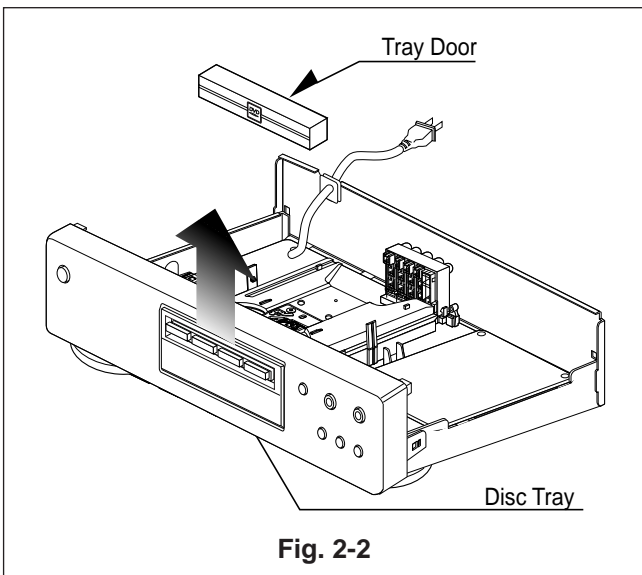

Fig. 2-2
1. Eject the disc tray. (See Fig. 2-2)
2. Remove the tray door. (See Fig. 2-2)
3. Release 2 screws (B).